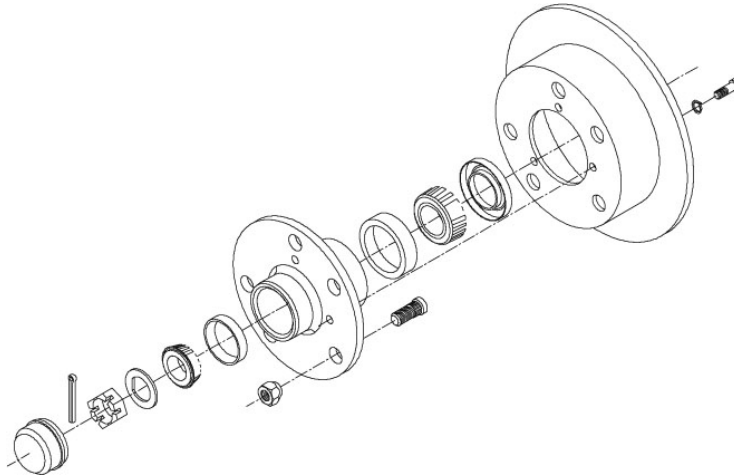

Figure 3 Hub Wheel Assembly – Exploded View
19. **Removal.** Remove the wheel hubs as follows (Figure 3):